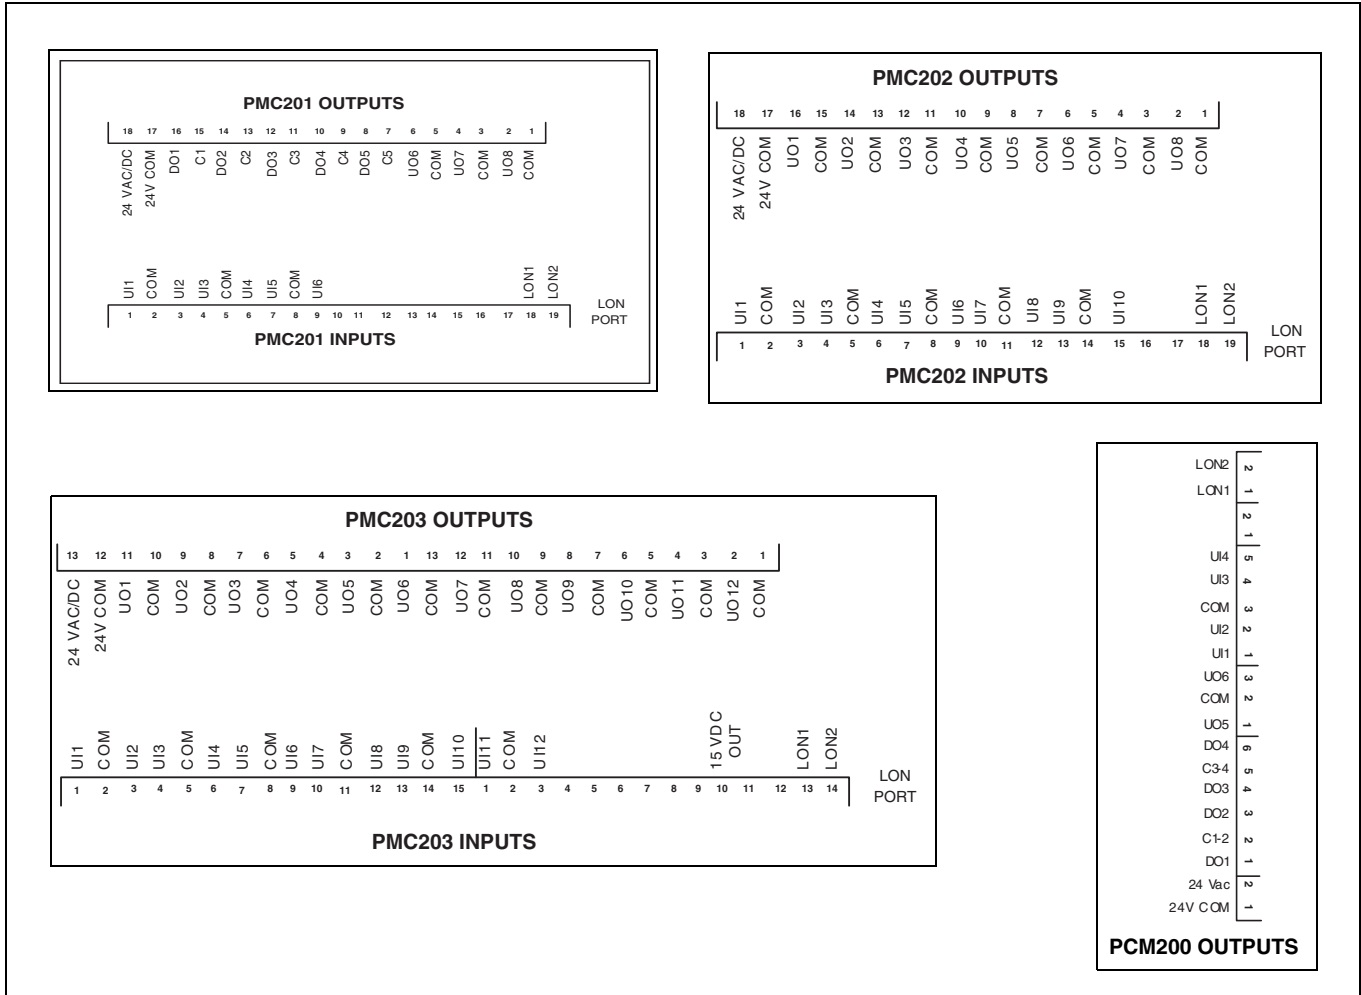

Figure 6. Electrical Connections
See Figure 6 for terminal location and typical connections.
- Power connections are on the top left side of the control module (see Figure 6 for wiring configuration).
See Figure 6 for wiring configuration.